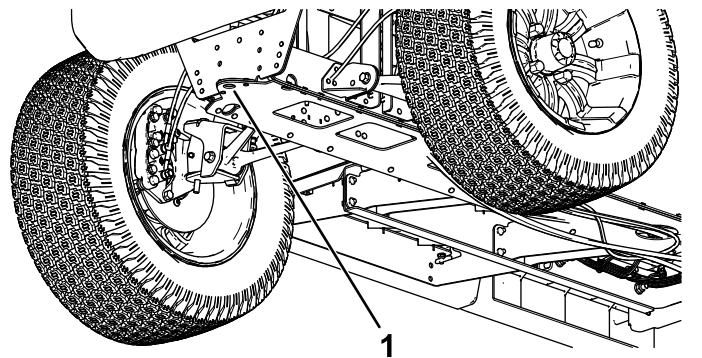

Figure 29
- The lifting point at the front of the machine is located at the front of the frame, behind the towing tongue (Figure 29).